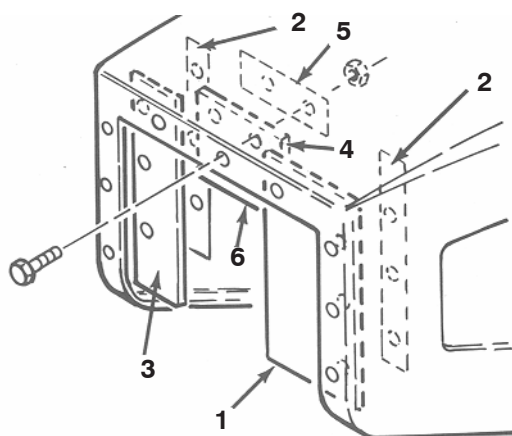

Figure 20
1. Secure the wide shield to the right inside lip of the hopper opening with a long flat, (3) #10 – 24 X 1" lg. screws and #10 – 24 flange nuts (Fig. 20).
2. Secure the narrow shield to the left inside lip of the hopper opening with a long flat, (3) #10 – 24 X 1" lg. screws and #10 – 24 flange nuts (Fig. 20).
3. Cut 1-1/2" of material off the bottom edge of the top shield. Secure the top shield to the upper inside lip of hopper opening with a short flat, (2) #10 – 24 X 1" lg. screws and #10-24 flange nuts (Fig. 20). Use the (2) mounting holes on the left side of the opening only.